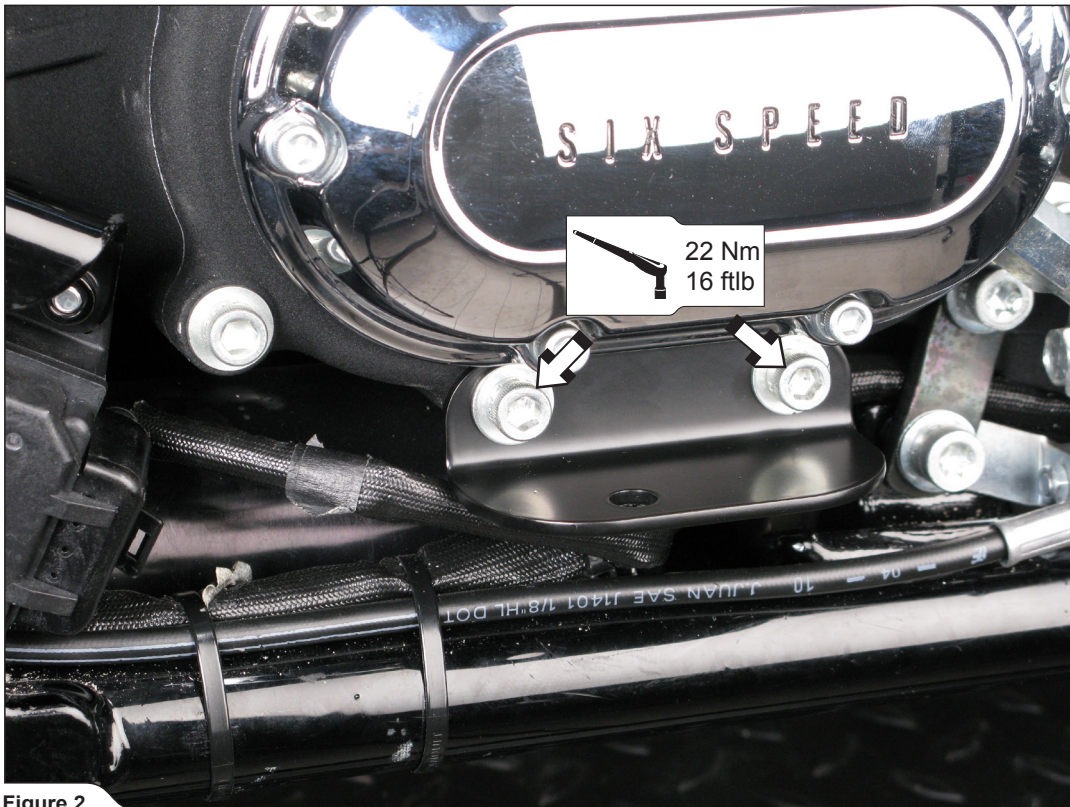

Figure 2
2. Install the correct muffler bracket for your motorcycle model from Akrapovič installation kit onto the transmission housing, using original bolts (Figure 2).